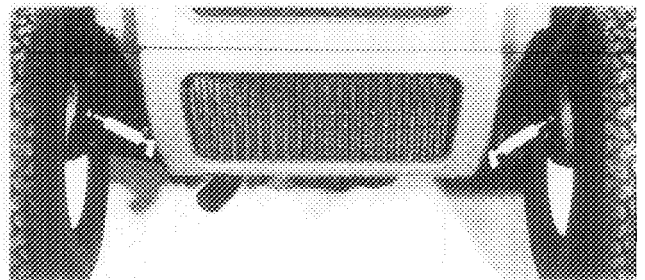

Figure 12
1. Wipe grease fittings on spindles and wheels (Fig. 12, 13) with a clean rag. If there is paint on front of fittings, scrape it off.
2. Lubricate both axle spindles w/No. 2 general purpose grease (Fig. 12). Continue to pump grease until it oozes out the spindle. Wipe up any excess grease.